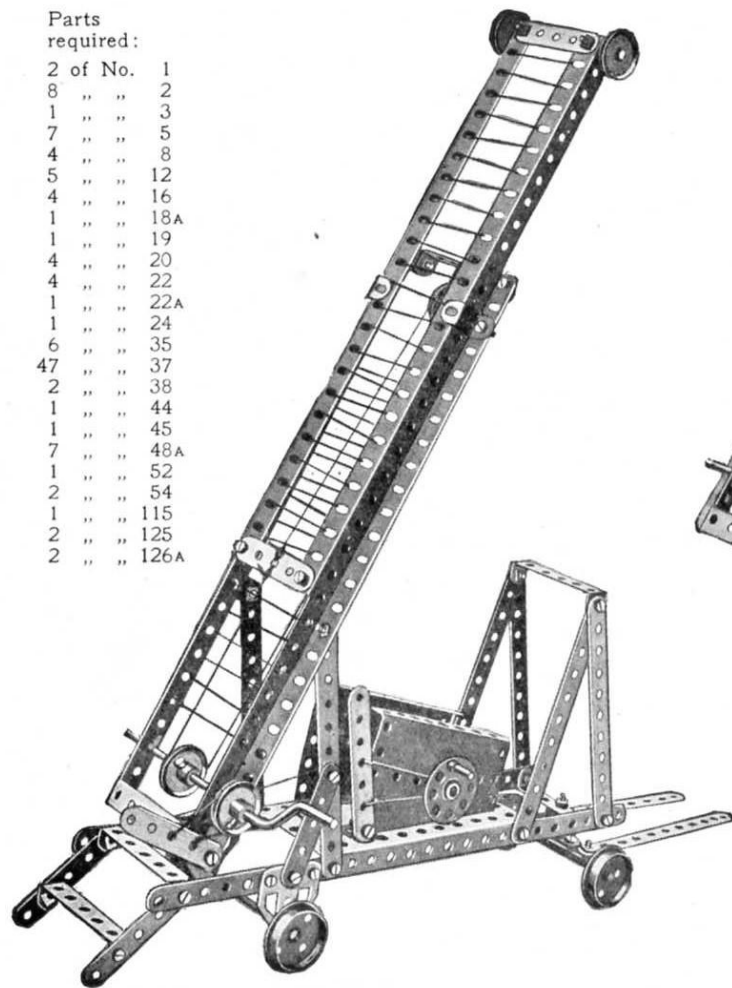

FIG. 245A
The bed of the lower carriage framework is formed by bolting two $12\frac{1}{2}$ " strips to the sides of a large flanged plate, and two sector plates bolted to the flanged plate by their flanges to form the sides, and a bearing for the spindle carrying the operating cord attached to the bottom of the ladder to raise it from a horizontal position: and the strips (1) form a support for the ladder when in this horizontal position. Angle brackets (2), Fig. 245A, form pivots for the lower part of the ladder, and are carried from the supports (3). The upper part of the ladder, Fig. 245, is slideably guided and retained on the lower ladder by reversed brackets (4). The extension of the ladder is effected by the cranked spindle round a pulley on which (and another pulley at the top of the framework) the cord is passed, the ends being secured to the lower part of the slideable ladder.